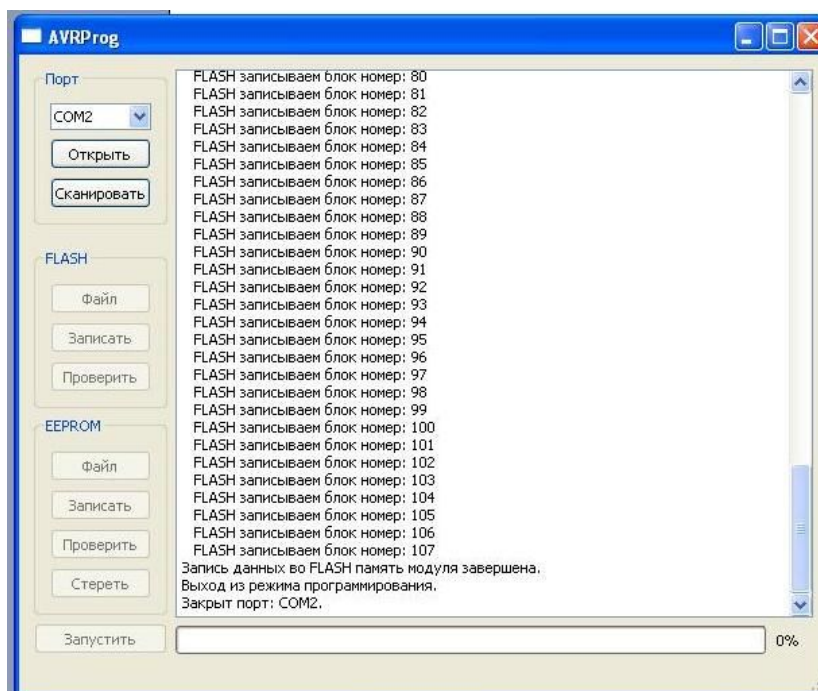

Fig.7
7. Click the start button. Herewith the modem will escape from the programming mode, the COM port will close (Fig.7).